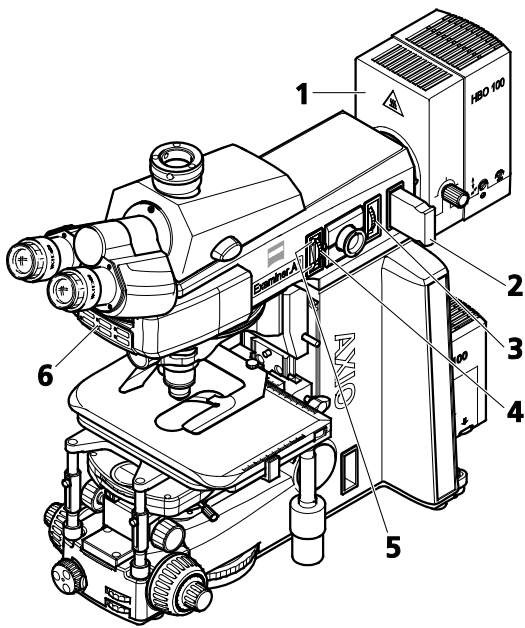

Figure 4-8 Components for reflected-light fluorescence (Axio Examiner.A1)
- Keep the optical path in the reflected-light illuminator blocked using the blocking position of the reflected-light filter drawer (Figure 4-8/2) for the time being.
- Switch on the HBO 100 or HBO 50 illuminator (Figure 4-8/1) at the illuminator's transformer (see section 3.2.3), and allow approx. 15 min to heat up to operating temperature.
- Select and switch on the FL P&C reflector module with the desired fluorescence filter combination (depending on the type of excitation) at the reflector turret (Figure 4-8/6).
- Enable the optical path in the reflected-light illuminator when using the reflected-light filter drawer (Figure 4-8/2).
- If required, set the illumination intensity of the fluorescent illuminator (HXP/HBO) using the thumb wheel at the FL attenuator (Figure 4-8/3).
- Close the luminous-field diaphragm (Figure 4-8/4) until it becomes visible in the visual field.
- Turn the two centering screws (Figure 4-8/5) to center the luminous-field diaphragm to the visual field border.